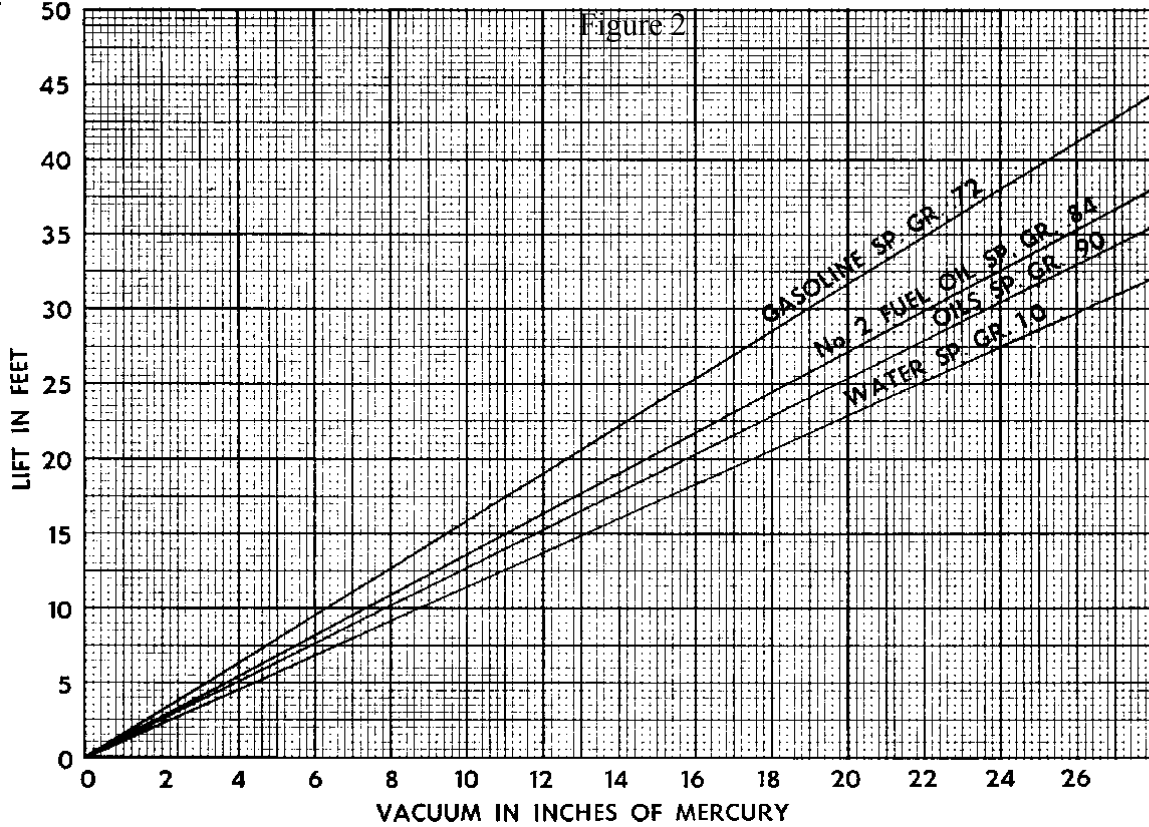

Figure 3
- a. Height from C/L to liquid level is measured at 11 feet. From Curve (figure 3 at end of document) we see this is equal to 6.6 in. Hg.(Mercury).